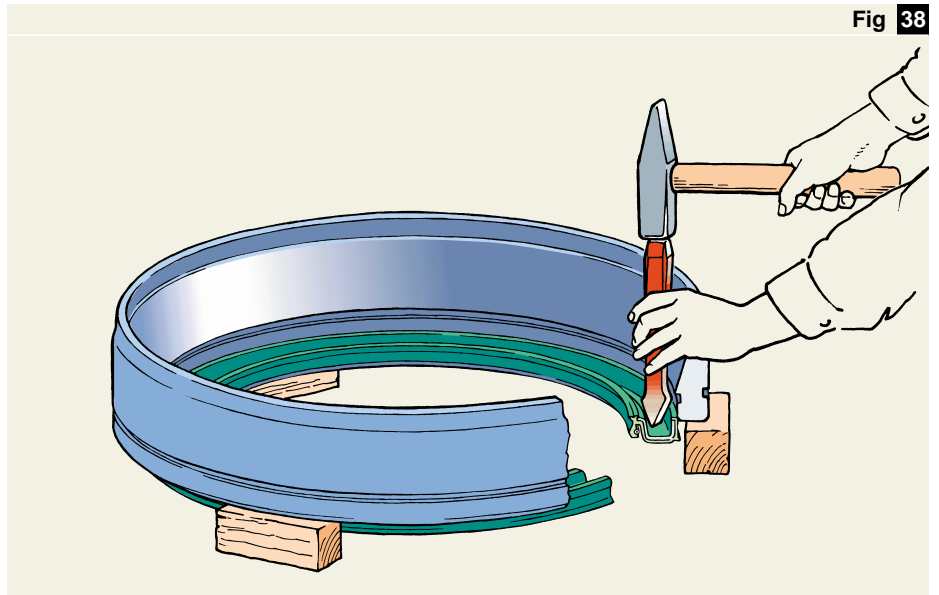

Fig 38
- Lay outer ring on wooden blocks, leaving the seal unsupported (→ fig 38).